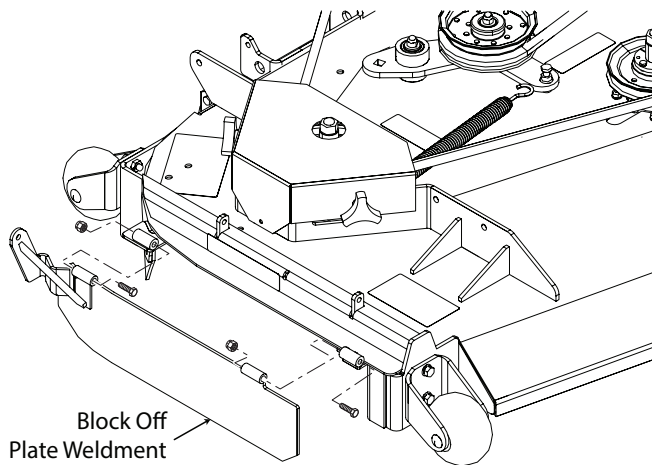

Figure 3-46. Block Off Plate Weldment Installation
17. Install the block off plate weldment to the front and rear hinge brackets using two (2) 5/16-18 x 3-1/2" bolts and two (2) 5/16-18 elastic stop nuts. See Figure 3-46. Do not tighten the bolts completely. Secure the hardware so the block off plate weldment moves freely.